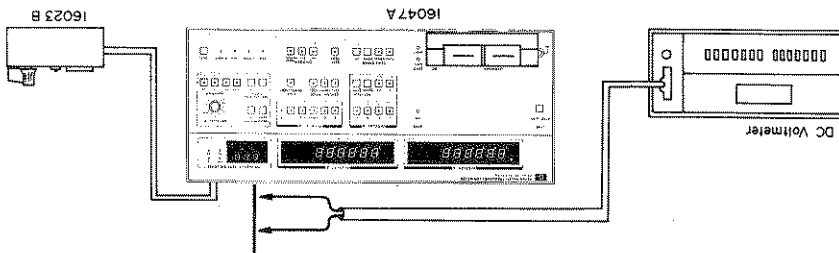

Figure 5-14. A21 (or A23) Internal DC Bias Supply
- b. Set 16023B DC Bias Controller thumbwheel switch to 0.00 and connect its 24 pin mate connector to BIAS CONTROL connector on the rear panel of the 4274A. See Figure 5-14.
- b. Set 16023B DC Bias Controller thumbwheel switch to .000 and connect its 24 pin male connector to Bias Controller connector on the rear panel of 4274A. Refer to Figure 5-14 except for the difference in test pins and board number.